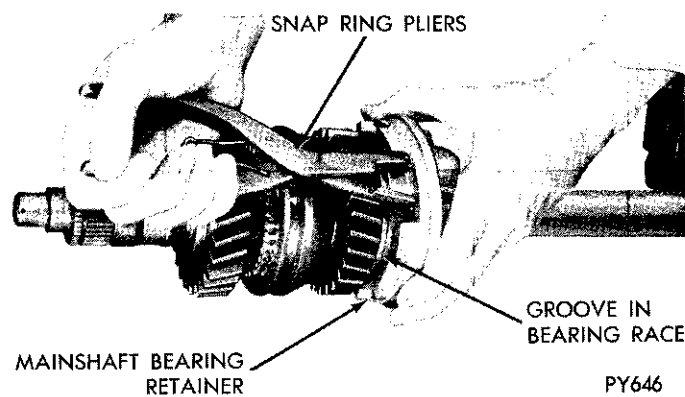

Fig. 17—Snap Ring Spread, to Remove or Install Retainer on Mainshaft Bearing
(4) Spread snap ring in mainshaft bearing retainer to disengage it from bearing groove and slide retainer off the bearing race (Fig. 17).
(20) Spread snap ring in mainshaft bearing retainer groove and slide it over the bearing. Be sure snap ring seats in bearing groove (Fig. 17).